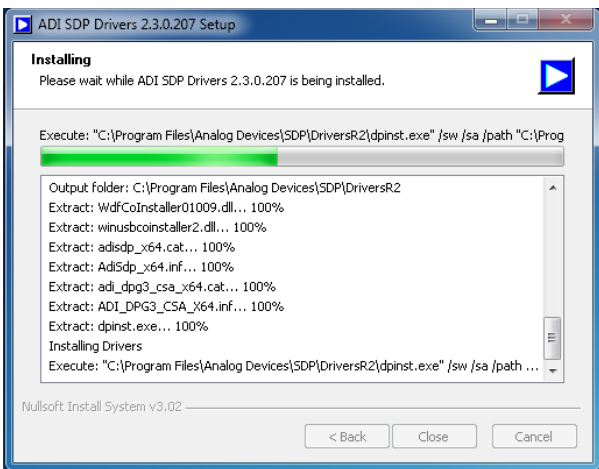

Figure 14. Installing
- The installation begins, and a progress bar shown in Figure 14 is displayed.